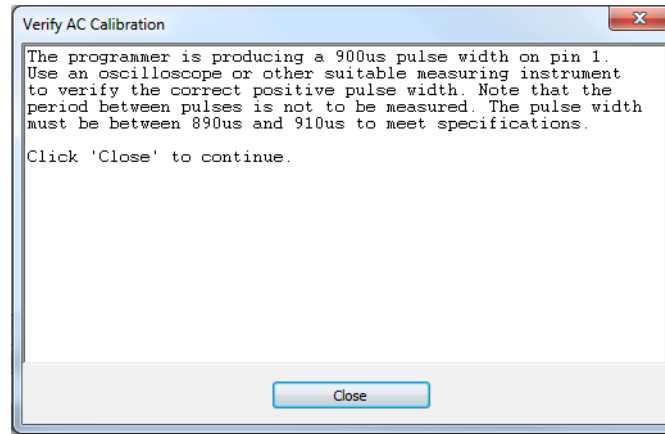

Figure 7: Verify AC Calibration Window
14. After verifying the readings with the multimeter, click **OK** on the **Verify Voltage Calibration** window. The **Verify AC Calibration** window appears, as shown in Figure 7.
If the reading is not within the tolerance range displayed in Figure 7, the Silicon Sculptor 3 needs to be marked as failed. Contact Microsemi SoC Tech Support (soc_tech@microsemi.com) along with the log file (C:\BP\DATALOG).